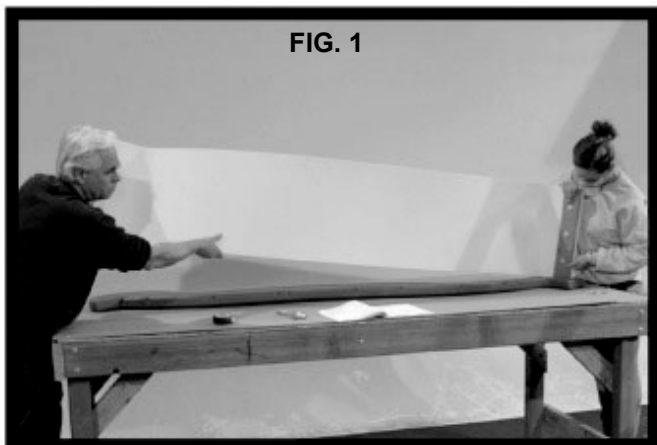

FIG. 1
ATTACH (2) QZ TRIANGLE PLATES TO W71 SWING BEAM SUPPORT USING (2) 1-3/4" BOLTS, LOCK WASHERS AND 7/8" BARREL NUTS (FIG.1).
- PLACE 1 SLIDE RAIL ON A FLAT SURFACE AND BEGIN INSERTING SLIDE BED AT THE BOTTOM OF THE SLIDE RAIL (FIG. 1). PUT SLIDE SUPPORT BOTTOM INTO THE SUPPORT POCKET AT THE BOTTOM OF THE RAIL AND HAVE A HELPER BEND THE SLIDE BED TOWARDS THE TOP OF THE SLIDE AND INSERT THE BED INTO THE SLIDE CAVITY. MAKE SURE SLIDE BED IS COMPLETELY DOWN IN THE SLIDE CAVITY. SECURE USING (12) 2-1/2" WOOD SCREWS AT EACH OF THE PILOT HOLE LOCATIONS AS SHOWN BELOW.